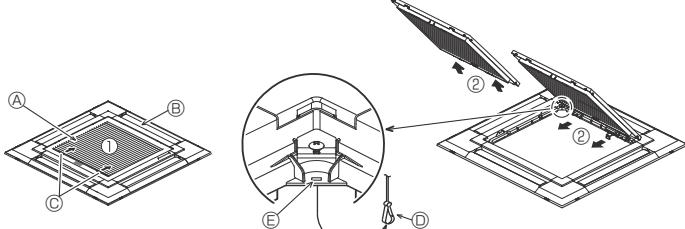
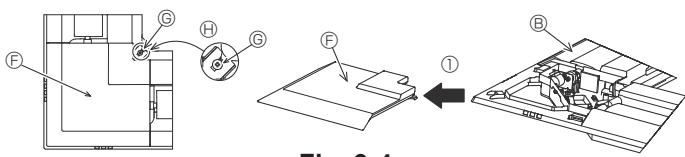

Fig. 9-3
Fig. 9-4
9.2.1. Removing the intake grille (Fig. 9-3)
- Slide the levers in the direction indicated by the arrows ① to open the intake grille.
- With the intake grille in the "open" position, remove the hinge of the intake grille from the grille as indicated by the arrows ②.
9.2.2. Removing the corner panel (Fig. 9-4)
- Loose the 4 screws on the corner. Slide the corner panel in the direction of the arrow ① in the figure and remove the corner panel.
[Fig. 9-3] [Fig. 9-4]